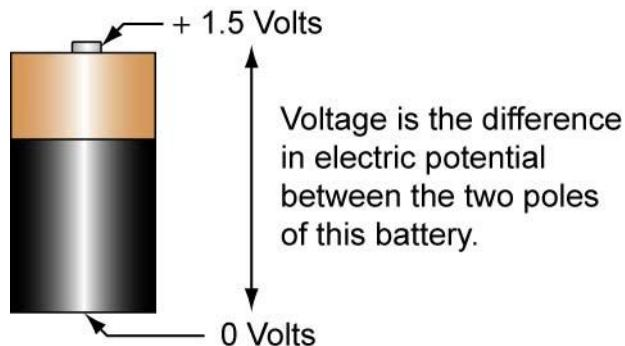

Figure 10: Difference in Electric Potential
- **Voltage (Units in Volts, V):** In general terms, voltage or electromotive force can be thought of as a pressure that is exerted on charges which causes them to move or flow in a conductor. More specifically, voltage is the difference in electric potential between two points (Figure 10). Voltage is represented by the letter V or E.